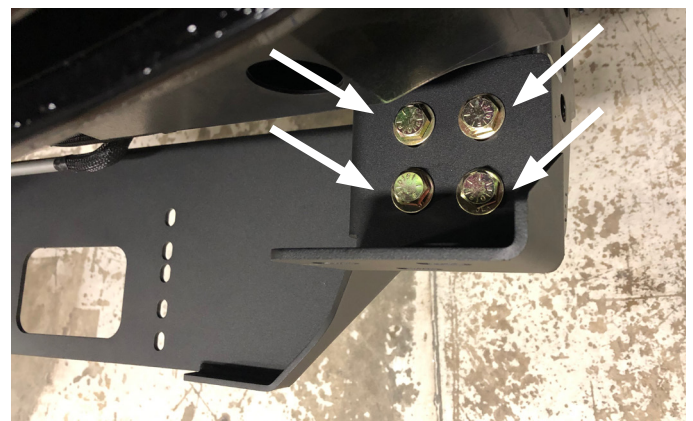

Figure 7
7. Using 3/4" Socket wrenches, install the winch plate (21859) with the provided 1/2"-13 bolts, flat washers, lock washers, and 1/2"-13 nuts on both sides of the vehicle. (50177-HW) (Figure7)